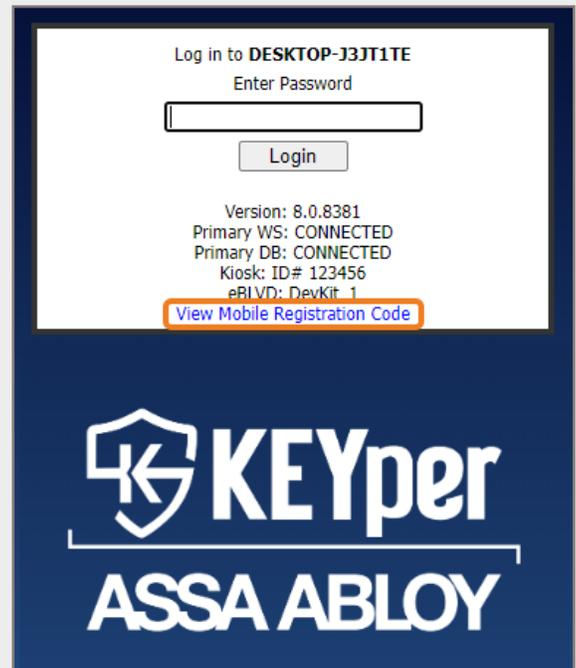

Fig. 18 – Web Admin with mobile registration code indicated
- 🔑 In the Web Admin, the mobile registration code is located on the **Login** screen, shown in Fig. 18. For information on accessing the Web Admin, see the Electronic System Manual.